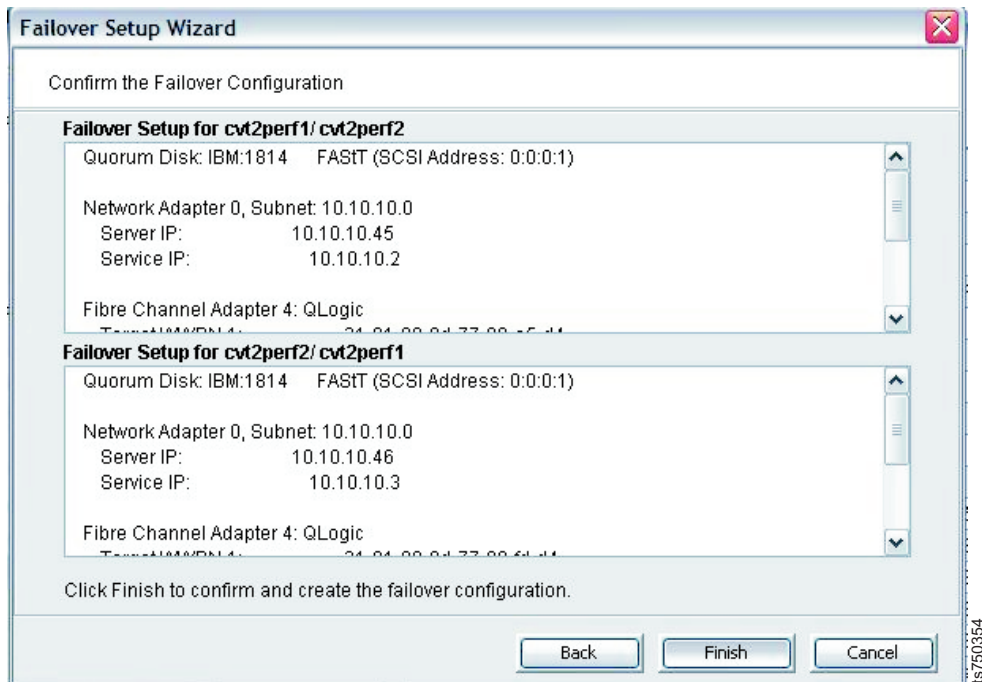

Figure 63. Confirm the Failover Configuration window
- ___ 15. In the Confirm the Failover Configuration window (Figure 63 on page 80), verify that the entered information is correct and click **Finish**.